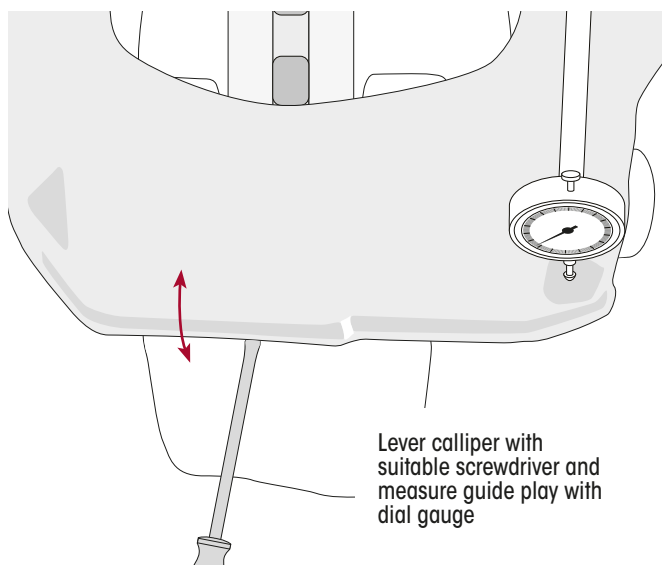

Figure 137: Knorr-Bremse Guide Inspection
2. Attach dial indicator to carrier on the short guide side of the calliper. Mount the gauge so that the measuring pin touches casting tag on the calliper and set to zero. Refer Figure 137.
3. Lever the calliper away from the carrier using a suitable screwdriver and read movement. The free play should not be more than 2 mm (0.080"). Refer Figure 137.